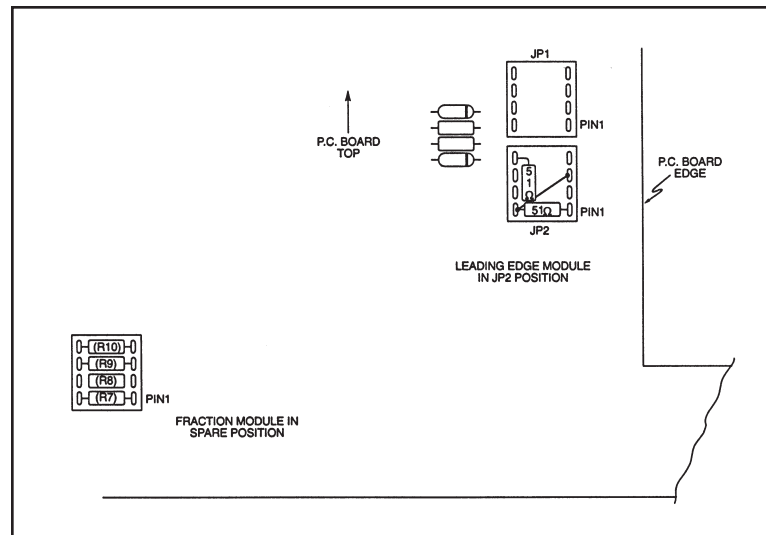

Figure 4 Constant Fraction Module, Including Resistor Values for Field Changes
The fraction module is located immediately below the attenuator module near the front of the circuit board. The user can change the desired fraction in two ways. Figure 4 illustrates the fraction module and lists values for two resistors that can be changed by the user to implement different values for the fraction. Alternately, contact the factory regarding other values of fraction modules available on special order.
Both Constant Fraction (CF) and Constant Fraction with Slow Risetime reject (SR) modes use the internal fraction module supplied with the 2126. To use either mode, verify that the fraction module is properly installed in its socket near the front of the circuit board. Figure 4 shows the proper installation of the fraction module. With the fraction module installed, the front panel Mode Switch allows selection of Constant Fraction (CF) mode or Constant Fraction with Slow Risetime reject (SR).